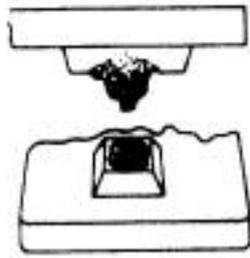
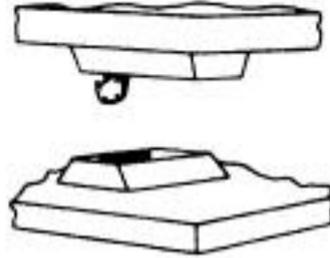
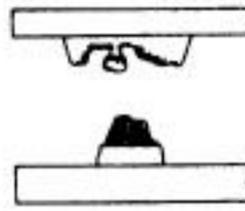

Fig. 8
Fig. 9
Fig. 11
5.03 Buildups and Pits - Buildups and pits on relay contacts result from the action of electric current as the relay makes and breaks contact. Buildups assume various forms and Figs. 8 to 11, inclusive illustrate some of the types encountered on relays. Where necessary remove buildups as outlined in 5.11 and 5.12. Buildups of the character shown in Fig. 11 can not however be removed by this method and should be cleaned as covered for cleaning of pits in 5.13 to 5.15. Sharp pointed buildups similar to those illustrated in Fig. 9 may result in the mechanical locking of the contacts in the operated or closed positions.